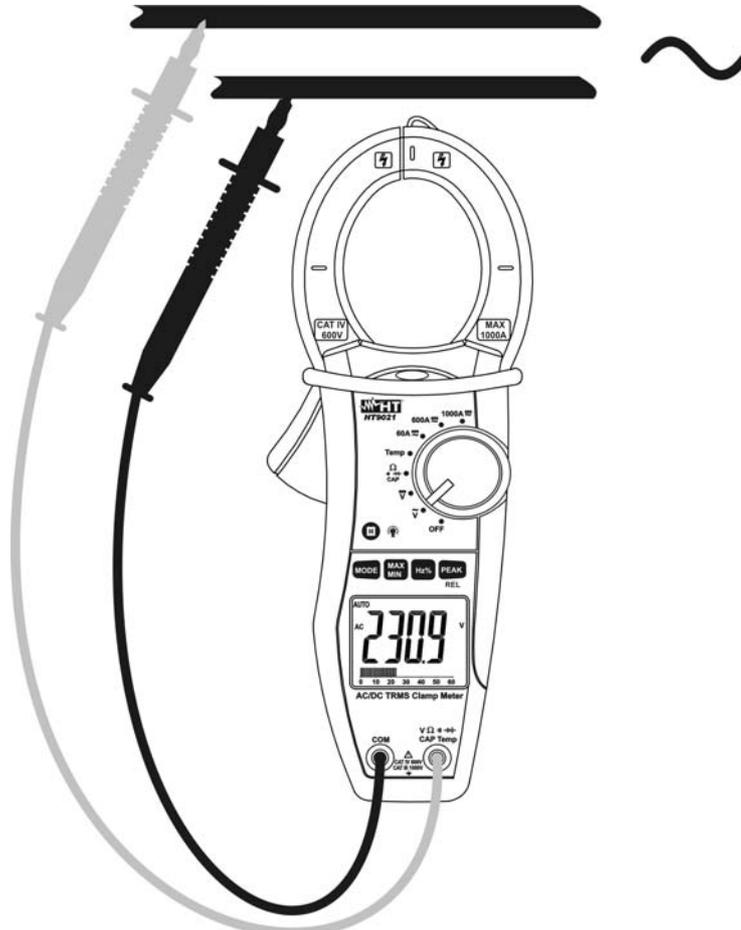

Fig. 3: Taking AC voltage measurements
3. Insert the red test lead plug into $V\Omega$ (CAP Temp) jack and the black test lead plug into **COM** jack (Fig. 3)